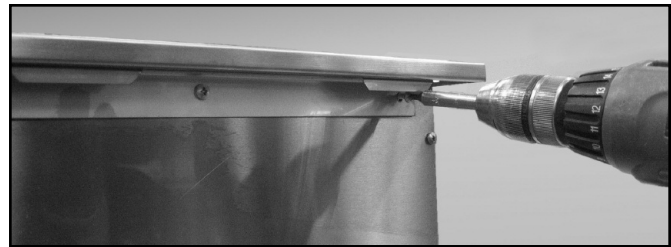

Fig. 39
- B. Install the bracket tab on both sides of the appliance head using 8 of the 10-24 x 1/2" screws. Install each bracket with 4 screws on each side of the outdoor appliance head (Fig. 39 and 40).